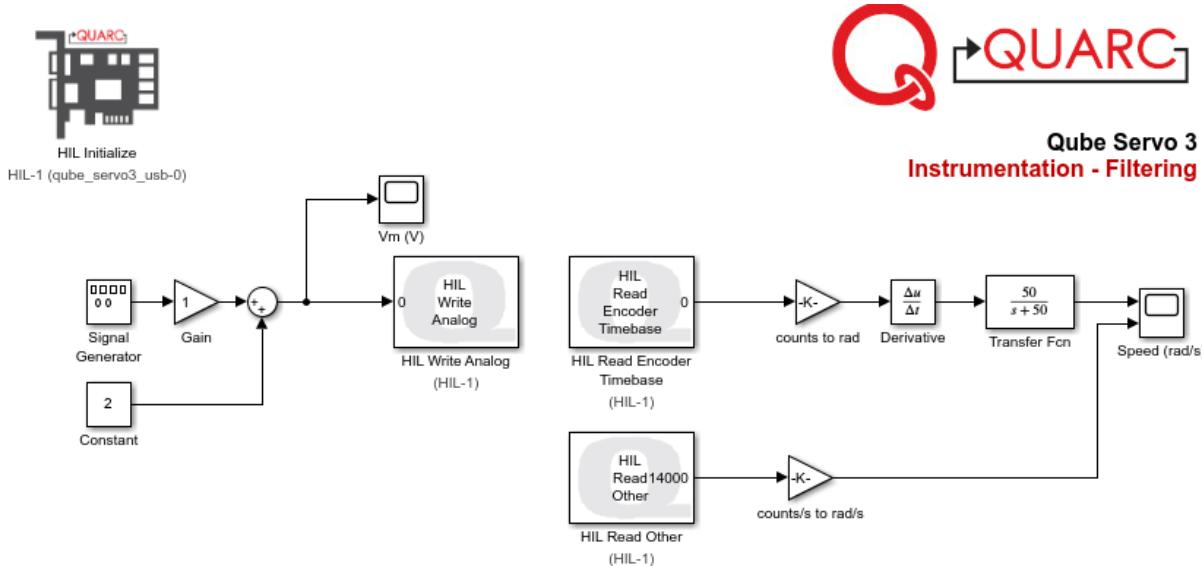

Figure 1. Measuring speed using the encoder
Based on the model developed in the **Hardware Interfacing** lab, the goal is to design a model that measures the servo velocity using the encoder as shown in Figure 1. Use **qs3_filtering.slx** as a starting point.
2. Build the Simulink diagram shown in Figure 1 but, for now, do not include the **Transfer Fcn**.
- 3. Using the Signal Generator block, set it up to output a square wave with an amplitude of 1V at 0.4Hz. Use a Sum block as shown in Figure 1, to convert the output from -1V to 1 V to a square wave between 1 and 3 V.
- 6. One way to remove some of the high-frequency components is adding a low-pass filter (LPF) to the derivative output. Add a Transfer Fcn block, this could be by double clicking on an empty part of your model and typing it out or from the Simulink | Continuous Simulink library. Place this block after the Derivative output and connect the output of the Transfer Fcn to the Scope. Set the Transfer Fcn block to a cutoff frequency of 50rad/s so that your block shows $50/(s + 50)$, as illustrated in Figure 1.